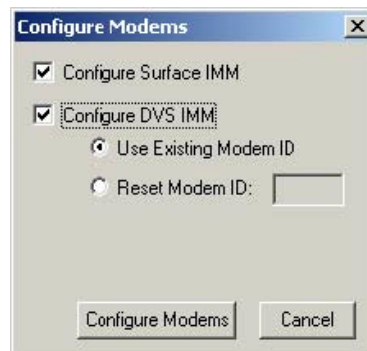

Figure 4. Configure Modems Dialog
10. On the **Configure** menu, select **Modems**. This will launch the dialog shown in Figure 4 below. Select which modem(s) you wish to configure (i.e. the surface IMM connected to the serial port and/or the DVS IMM).